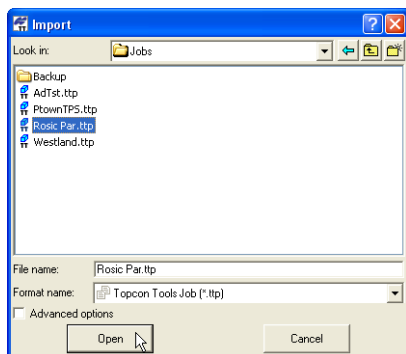

Figure 3-24. Import Topcon Tools Job
4. Click **Open** to import the file (Figure 3-24).